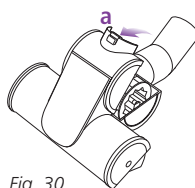

Fig. 30
- 1 Slide the locking latch (a) forward and gently tilt brush housing upward to open. (Fig. 30)